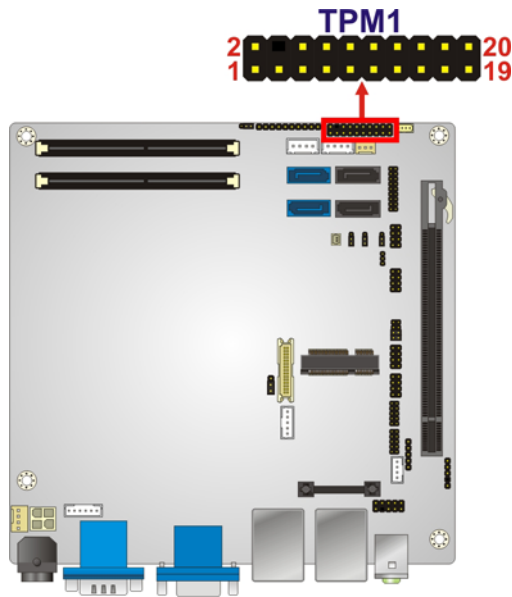

Figure 3-22: TPM Connector Pinout Location
- CN Location:** See **Figure 3-22**